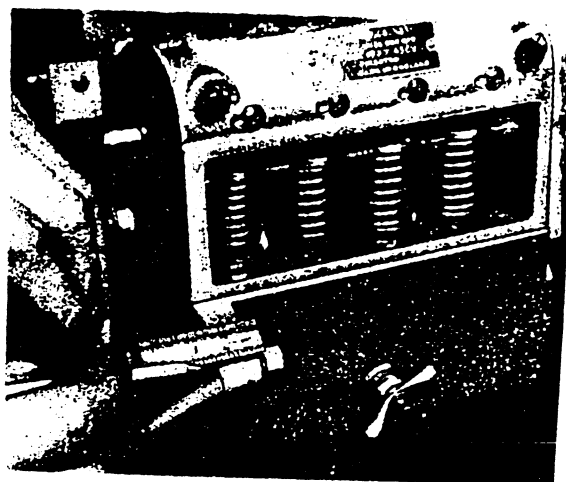

FIG. 115.
2. Scribe a line on the crankcase (if it is not already marked) exactly opposite the scribed line on the pump mounting flange, as shown in Fig. 115. If there are other scribed lines on the block these must be obliterated..